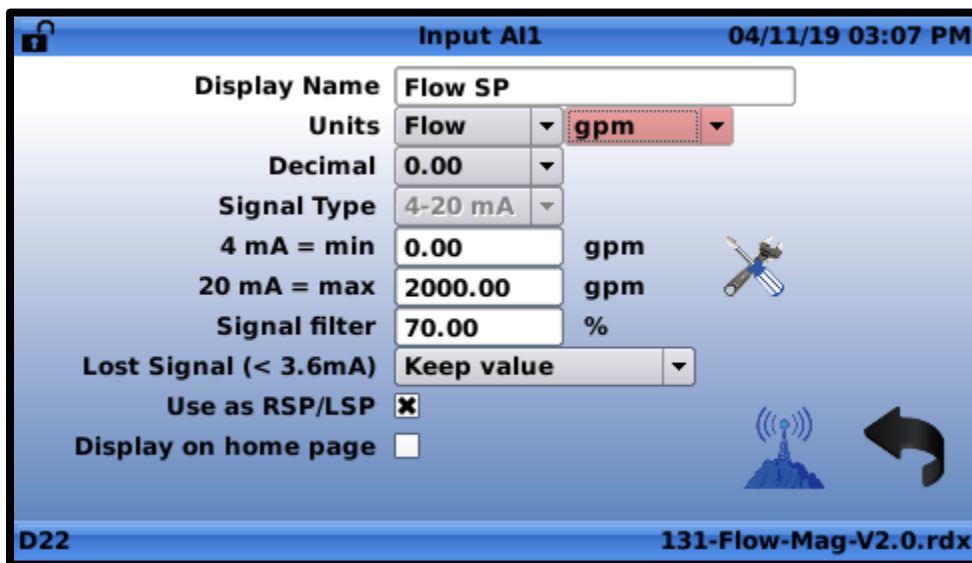

Figure 4.23
- Press the “OK” button to change the dropdown value. The background will turn red as shown in FIGURE 4.23: